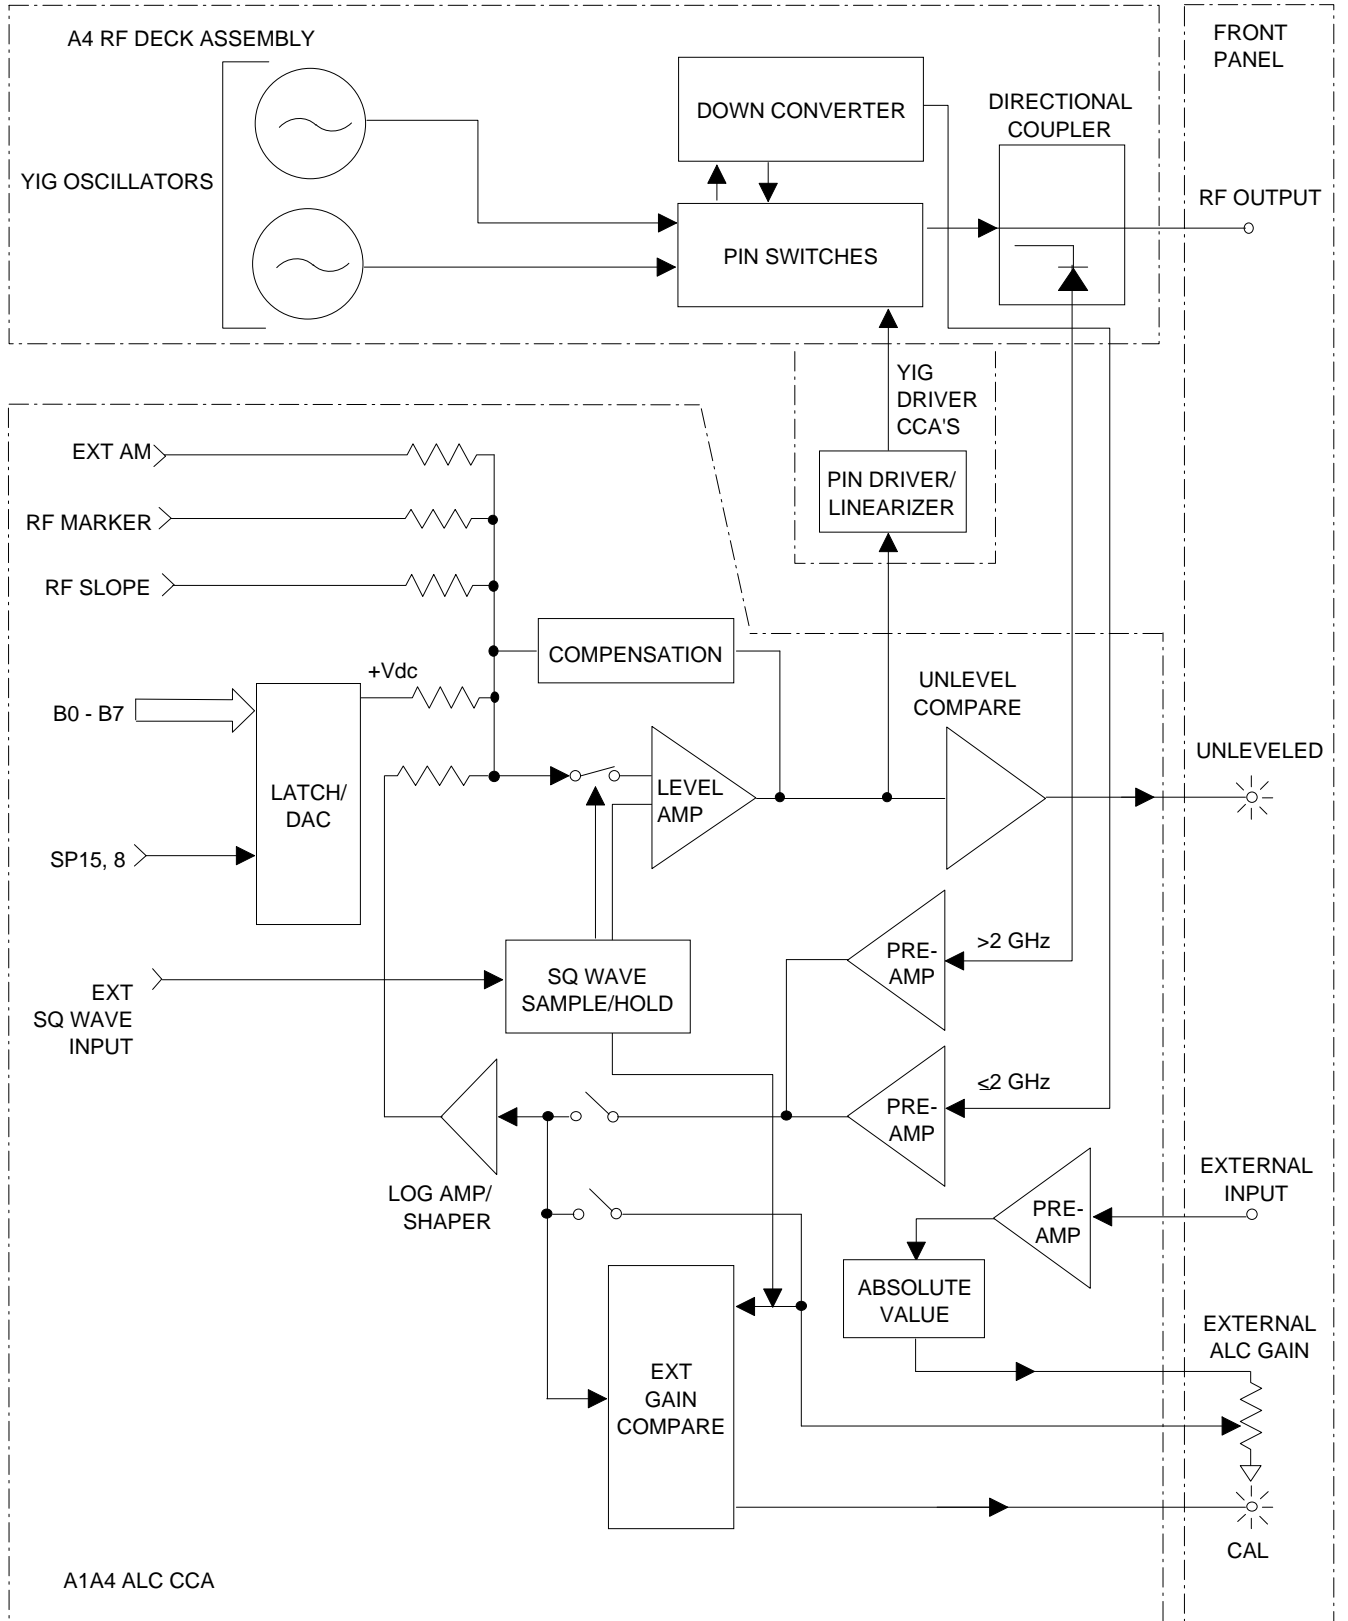

Figure 2-7. ALC Loop Functional Block Diagram
f. *A1A4 ALC PCB.* This PCB, along with circuits on A4 RF Deck Assembly and the appropriate Band 1, 2, 3, or 4 YIG Driver, provides for automatically leveling RF output power (Figure 2-7). Although not shown, this PCB also processes A4AT1 Step Attenuator control bits. It receives these bits (ATTN 1 thru ATTN 4 lines) from A2A12 Microprocessor PCB. It then routes them to A4AT1, via current-drivers on A1A10 FM/Attenuator PCB.